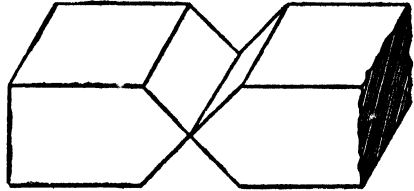
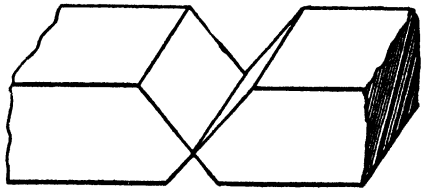

Fig. 69. Preparation of Heavy Forgings for Welding
Fig. 70. Preparation of Heavy Castings for Welding
**Square Sections.** Square or rectangular sections of forgings are best prepared by beveling half way through from each side, Fig. 69. After the welding has been carried on from one side, the piece turned over and the welding completed from the second side, there will probably be a slight bow, or curve. In the case of forgings, this is not objectionable, because the work can be, and, in fact, should be, reheated and straightened. The reheating in the case of forgings is beneficial to the grain of the material and the strength of the weld. With castings, however, this bending is not possible. Therefore, to keep the work in alignment, it is best to prepare the work as shown in Fig. 70. The welding is carried on two-thirds of the way through from the first side, and then finished by turning over and working from the second side.